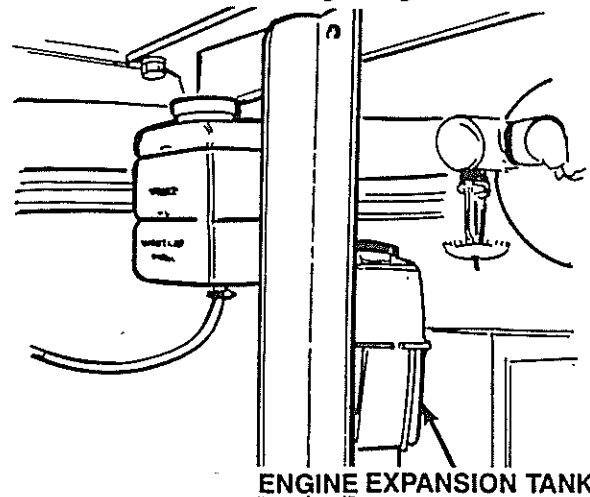

Figure 3-3 Checking Coolant Level
6. See Figure 3-3. Check that the coolant level in the expansion tank is at the "FULL" mark.